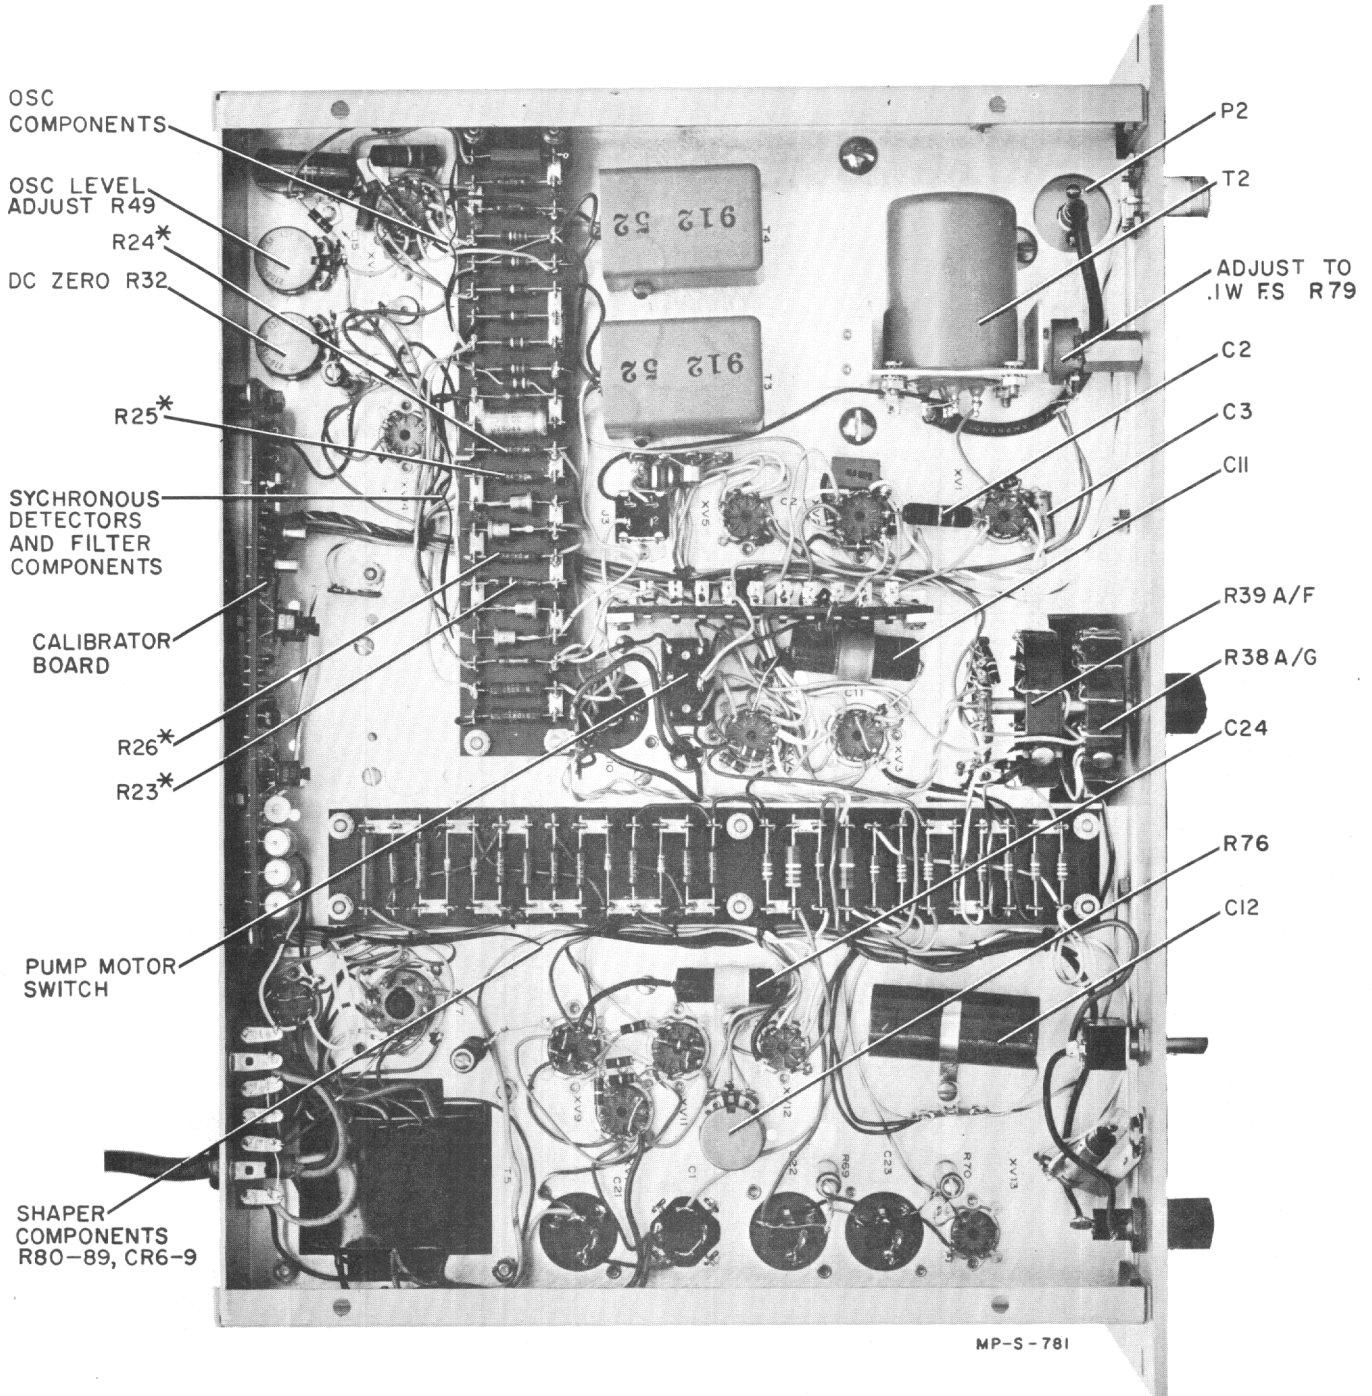

Figure 4-3. Bottom View of Model 434A
- b. Refer to figure 4-3, bottom view. Leave instrument on its back and remove the two truss-head screws which anchor head box assembly from bottom. Unplug coaxial cable, P2, at the head box.